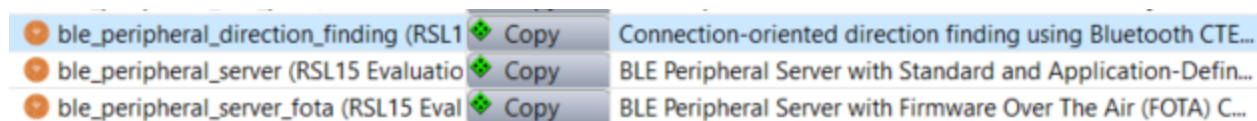

Figure 15. Bringing the Project Into the Workspace
1. Copy the *ble_peripheral_direction_finding* sample application into your workspace. The C/C++ perspective opens and displays your newly copied project, as shown below in the figure "Bringing the Project Into the Workspace" (Figure 15).